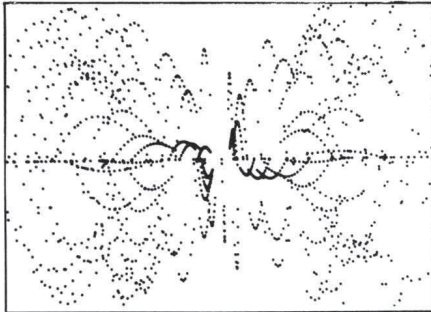

Figure 9
3) live action speed—Real time displays draw and redraw images fast enough to see the animation without filming or taping (just like the process we saw in the analog systems). Figure 9 is from my film *3/78* which was animated on a real time system.